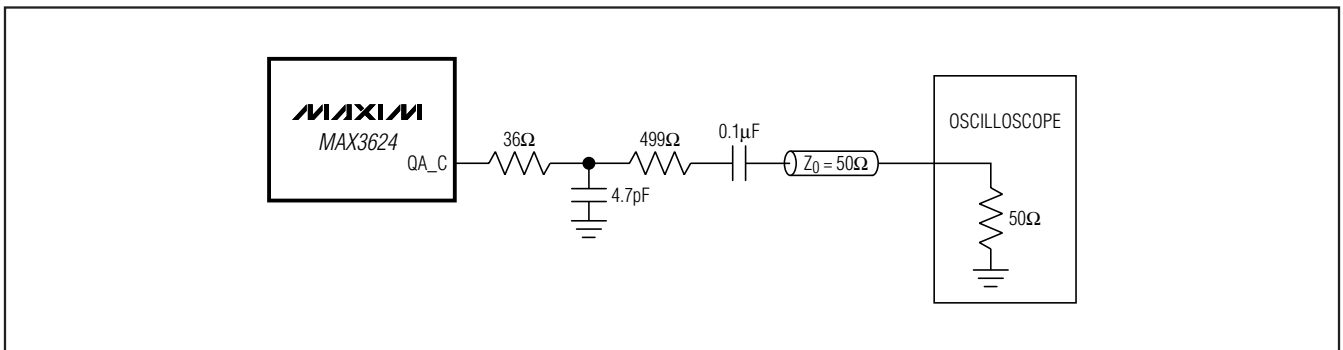

Figure 1. LVCMOS Output Measurement Setup
**Note 6:** Measured using setup shown in Figure 1 with  $V_{CC} = 3.3V \pm 5\%$ .